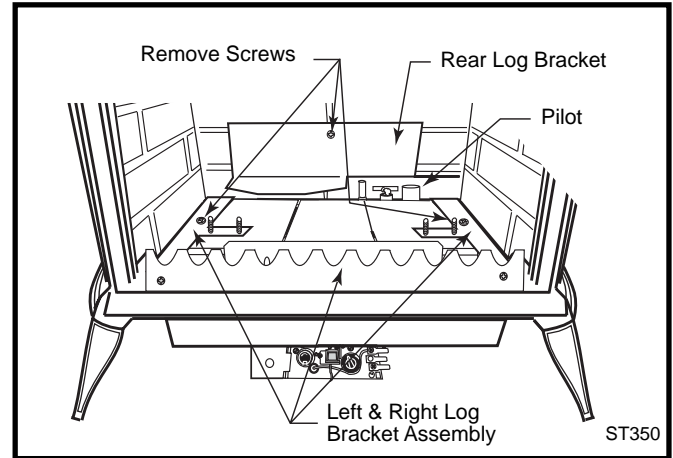

Fig. 59 Remove rear log bracket and left and right log bracket assembly.
5. Remove the rear log bracket by unfastening the screw. (Fig. 59)
6. Remove the right and left log bracket assembly by unfastening the two screws which hold the burner in place. (Fig. 59)
14. Locate pilot. (Fig. 59)